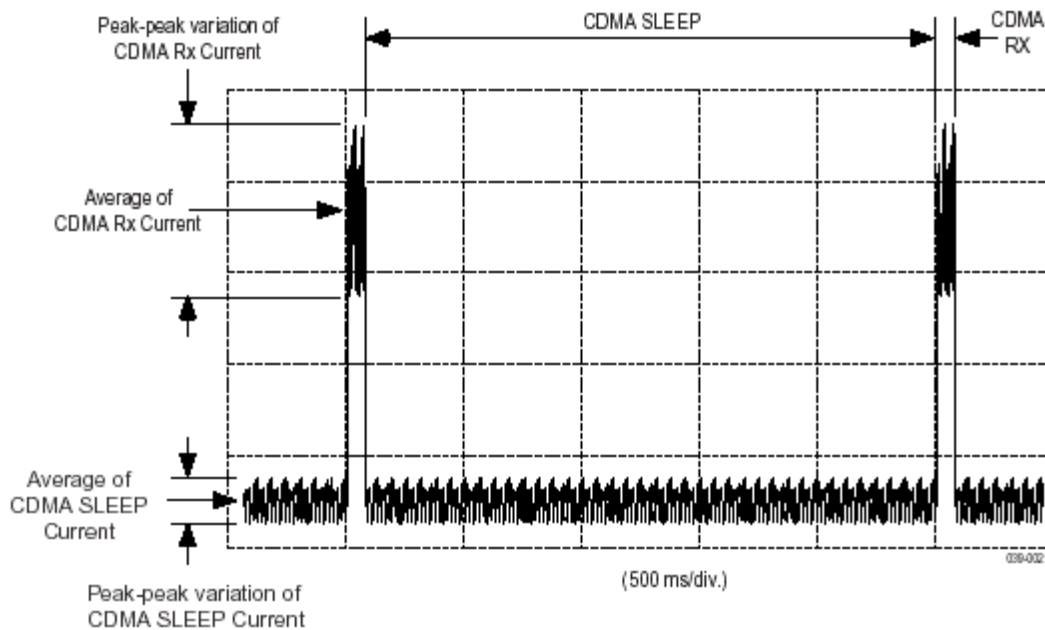

Figure 3-2 Power supply current versus time in slotted paging mode
1. Values shown in this table represent a time average of the observed data from recent testing conducted by QUALCOMM over a limited number of devices at room temperature (25 °C). See Figure 3-2 for illustrations of average power supply current. Measurements are done on a FFA6550 and/or reference design phone with AMSS6550/6150 Release 3.0.